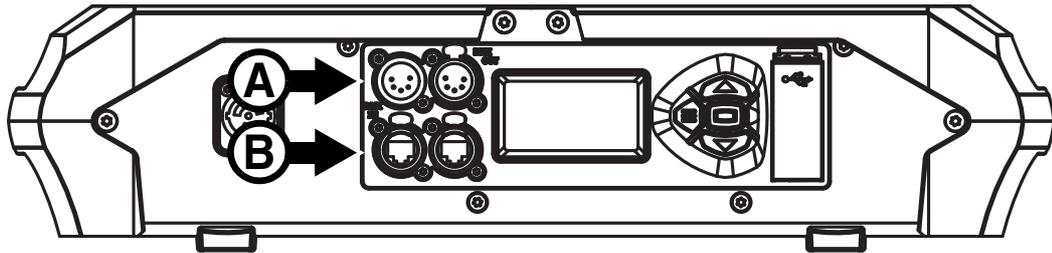

Figure 8: Data connections
- one pair of XLR sockets (**A** in Figure 8), and
- one pair of etherCON sockets (**B** in Figure 8).
The MAC Ultra Performance has 5-pin locking XLR sockets (see **A** in Figure 8) for DMX and RDM input and output via DMX cable. The default pin-out on both sockets is:
The MAC Ultra Performance has Neutrik etherCON data sockets (see **B** in Figure 8) that support DMX and RDM over Art-Net and sACN as well as Martin P3 video. Either socket can be used for input and the other socket used for throughput.